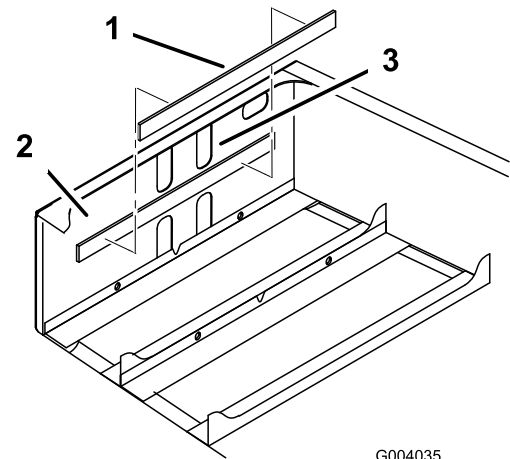

Figure 5
3. Remove the adhesive strip from the back of the battery pad and install it to the front inside face of the rear frame as shown in Figure 5.
**Note:** The pad should be approximately 1/4 inch below the bottom edge of the upper set of cut-out holes (Figure 5).